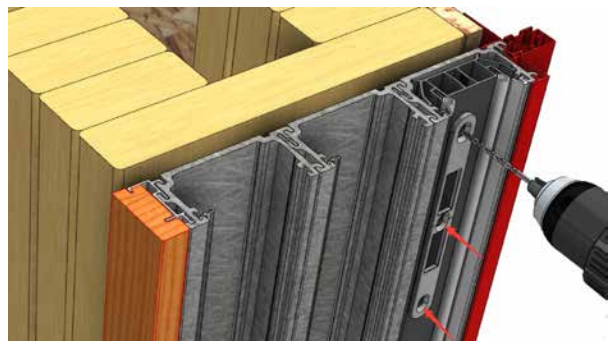

Fig 44
- Use the holes in the jambs from the factory applied screws to drill a 1/8" hole through the jambs and into the framing (Fig 44).